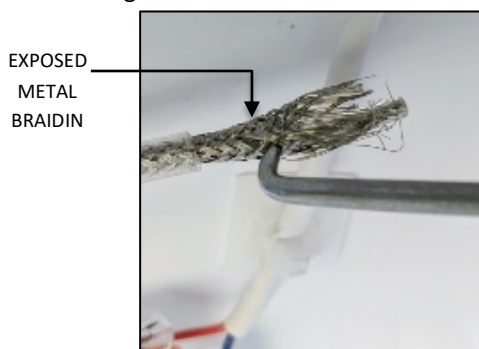
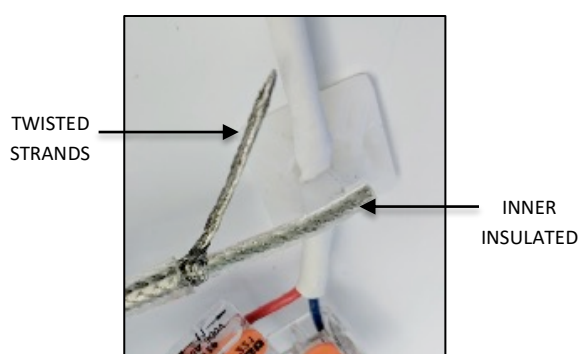

FIG. 41
FIG. 42
- Using a small pointed object, begin unweaving the exposed metal braiding as shown in FIG. 41 below. Position the unwoven metal strands on one side of the inner insulated wire and twist the individual strands together as shown in FIG. 42 below.